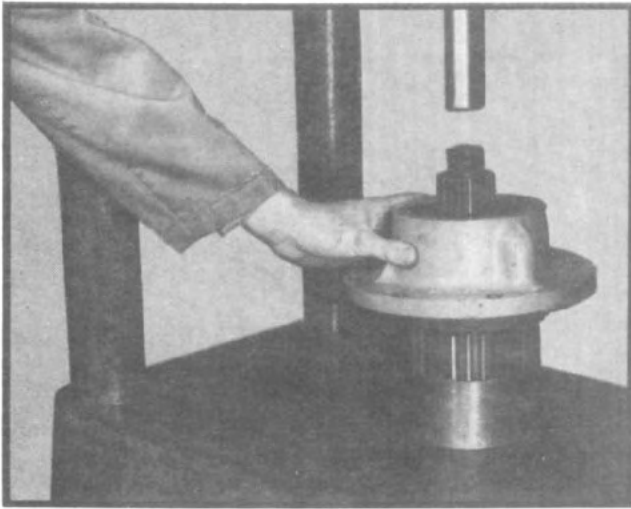

Fig. 7
14. To press output shaft from PTO/declutch carrier and clutch gear, press against threaded end of shaft while supporting by the clutch gear. (See fig. 7.)